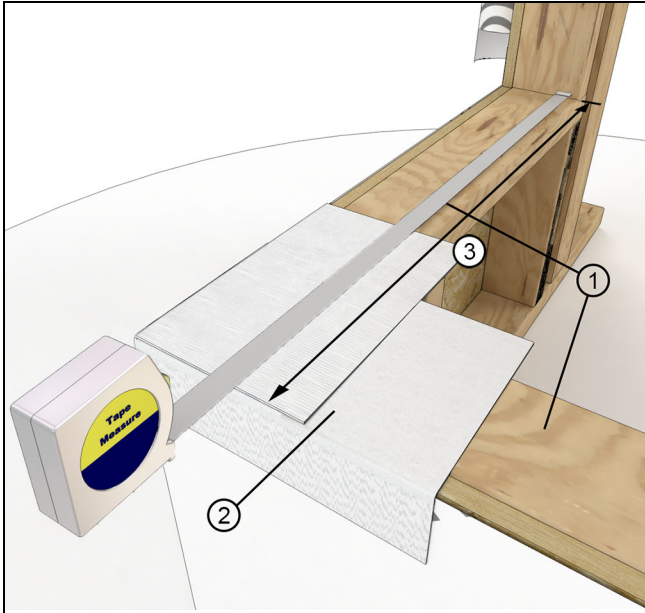

Figure 22
6. Cut another strip of flashing equal to the full length of one rough opening leg. Make the same folds as earlier. See Figure 22.